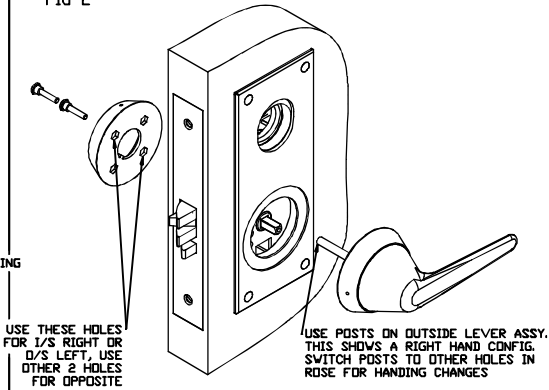

FIG 3
7. INSTALL THE INSIDE LEVER ASSEMBLY INTO THE ROSE- ALIGN TABS. SET SCREWS HAVE TO BE FLUSH OR BELOW THE SURFACE TO ALLOW CLEARANCE. SEE FIG 3.